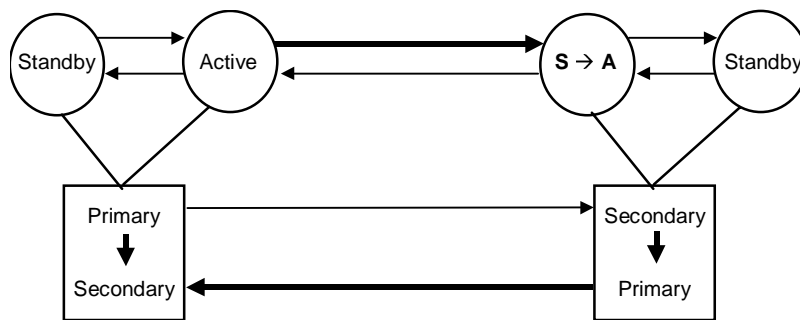

Figure 2.5 Package Transfer on High Availability (HA) Software
In a high availability (HA) environment, a package is a group of applications that are scripted to run on the secondary host in the event of a primary host failure. When using the HA software (e.g., MC/ServiceGuard), the package can be transferred to the standby node as an operation executed by the system administrator (see Figure 2.5). However, if the operation is performed in an environment in which HORC is used, the volume is switched from primary to secondary as if an error has occurred, even though data consistency is assured. When returning the package to the current node, it is necessary to copy the secondary volume data into the primary volume, and this operation can take as much time as the initial copy operation for the pair. In actual operation, no package can be transferred when HORC is used. The secondary package is switched to the primary package, and vice versa, when the primary volume is switched to the secondary volume. Therefore, the primary and secondary HORC volumes should be switched depending on the package state.